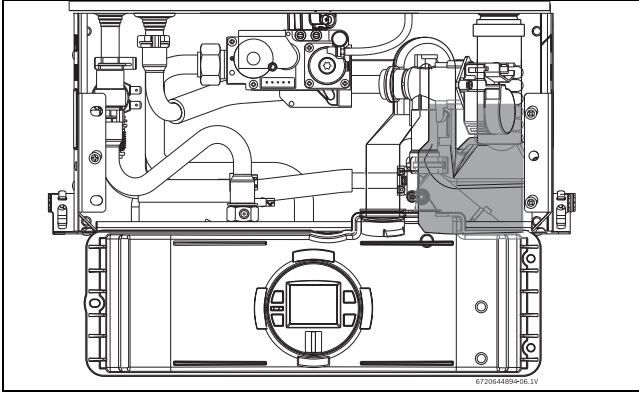

Fig. 42 Water level in condensate trap
- ▶ Put the control unit in service position by engaging its tabs with the holes in the bottom horizontal sheet metal, see fig. 42.